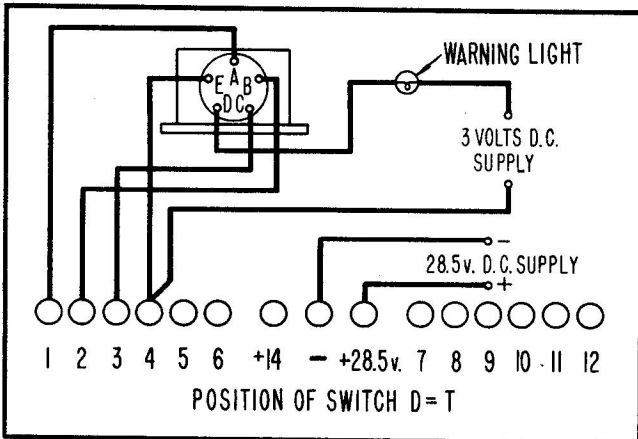
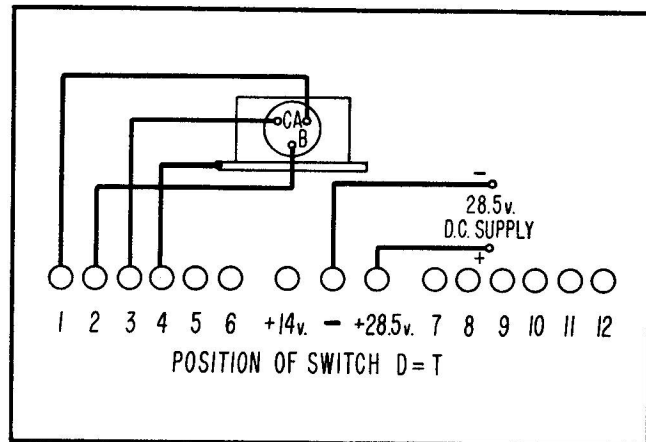

Figure 4-277. Field Tester Connection Diagram for EA565W-1311 and EA565W-1345
Figure 4-278. Field Tester Connection Diagram for EA565P-991
c. Use connection diagram, figure 4-277, to connect tank units EA565W-1311 and EA565W-1345 to Type 0-1 Field Tester. Use figure 4-278 for EA565P-991.